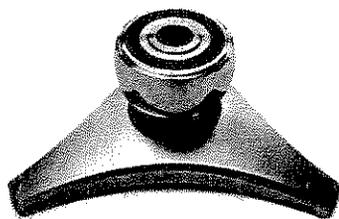

Fig. 13
**Note:** properly check the position of the appropriate head adaptor before final impaction into *Metasul LDH* large diameter head (Fig. 13).